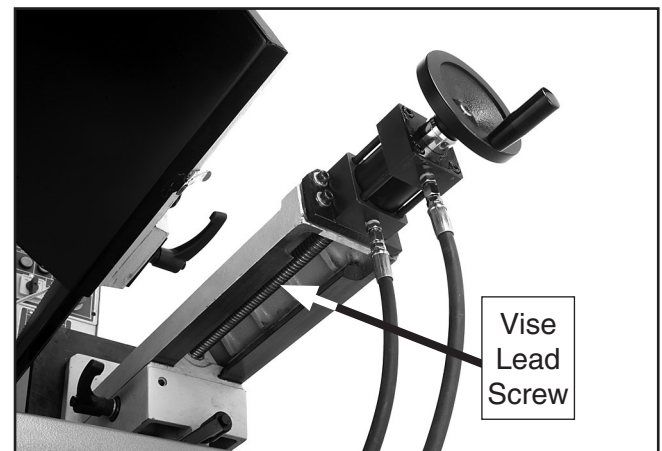

Figure 47. Vise leadscrew lubrication area.
2. Lubricate the leadscrew as needed with multi-purpose grease by applying a thin layer along the leadscrew surface (see **Figure 47**).